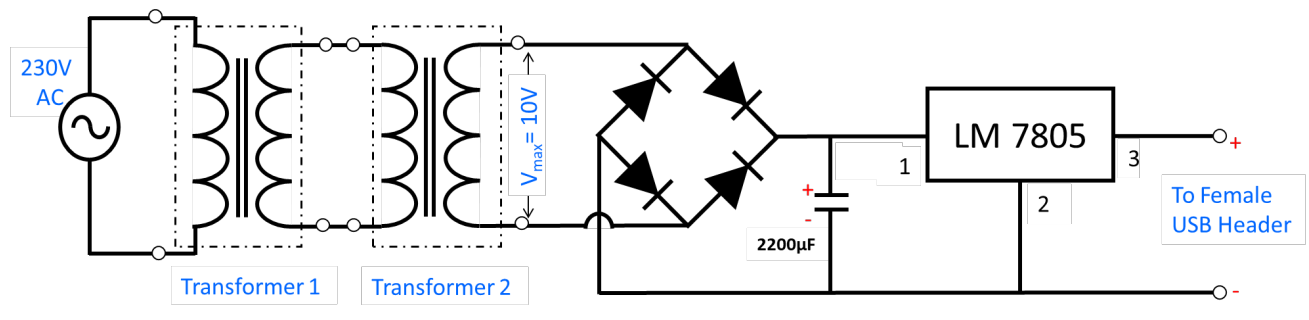

Figure 9: Circuit Diagram for Activity 3
1. Using the breadboard, connect the circuit as shown in Figure 9. The value of the capacitance is **2200 μ F**.